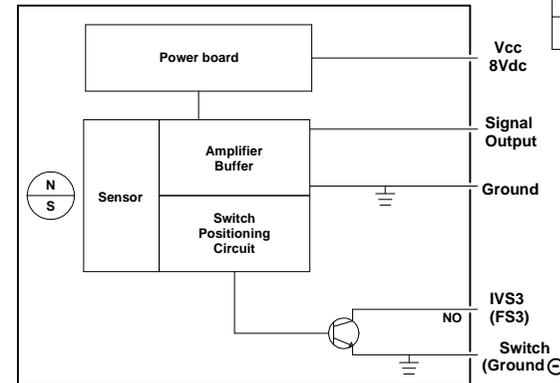

Fig. 2 Signal Output
- Electrical Travel : See Fig 2.
- Switch Position shall be discussed at PO and fixed at factory before delivery. See Fig. 2